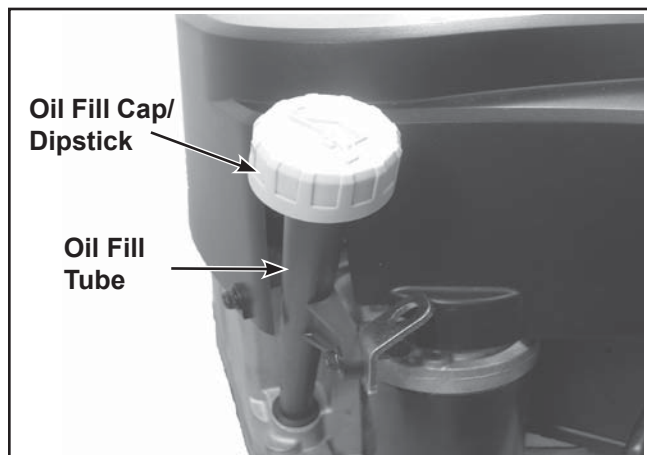
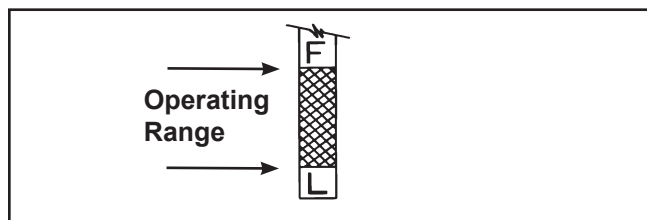

Figure 10-87. Oil Fill Cap/Dipstick and Oil Fill Tube.
Figure 10-89. Oil Level Marks on Dipstick (Typical).
5. Add oil to bring the level up to the F/Full mark. Turn the oil fill cap/dipstick counterclockwise until the oil fill cap drops down to the lowest point of the thread leads. **Do not** thread the oil fill cap onto the tube. See Figure 10-87 and 10-88. The oil level needs to be within the operating range. See Figure 10-89. If low, add oil of the proper type up to the full mark. If oil is above F or FULL mark, drain oil to reach proper level. Reinstall the oil fill cap/dipstick and thread until tight.